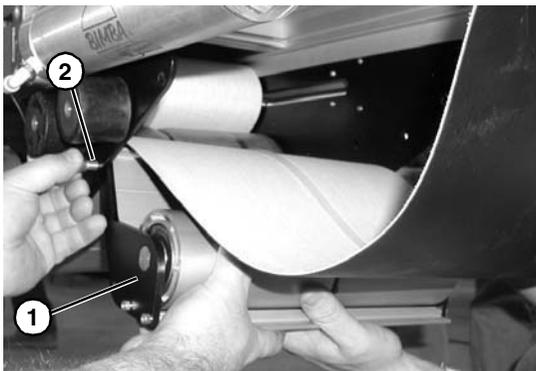

Figure 21
4. Swing down idler guard assembly (**Figure 21, item 1**). Remove screw (**Figure 21, item 2**) from both sides of center drive and remove idler guard assembly (**Figure 21, item 1**).